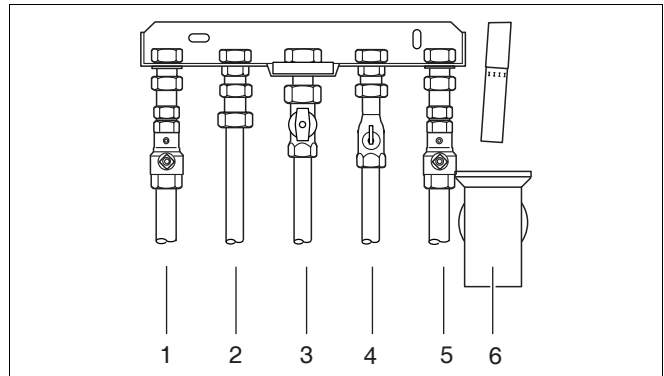

Fig. 6 Pipe connections
- Connect pipes as shown in fig. 6. Ensure that all pipework is routed so as to minimise any strain on the boiler fittings.
- Connect pipes free of tension (fig. 6).
Key to fig. 6: